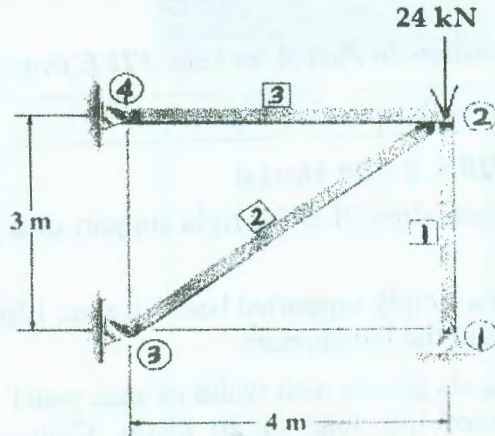

Fig.2
b) Perform analysis of the three-member truss shown in Fig. 2 using direct stiffness method. Take AE as constant. 8 3 4 2